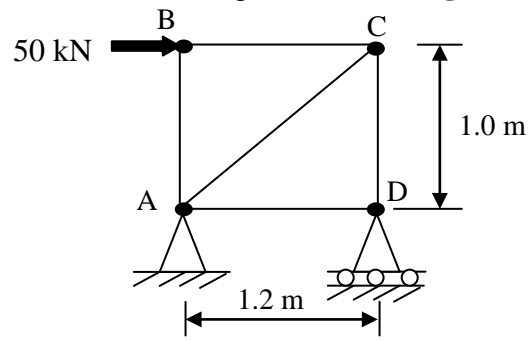

Fig. 3
- (b) Determine the member forces for the given truss in **Fig. 3**. **04**